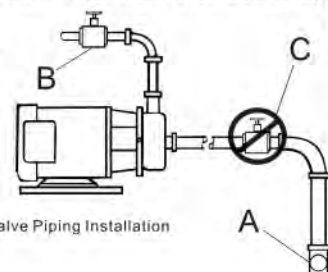

Figure 6 - Valve Piping Installation
- 3.12 This pump is not self priming. If pump is installed above supply liquid level, install foot valve or other system check valve to keep system flooded for priming. (See Figure 6 item A).
- 3.13 A throttling valve may be required to control pump flow rate to prevent motor overload. Always install throttling valve (See Figure 6 item B) in discharge piping and at least 10 diameters from pump outlet.